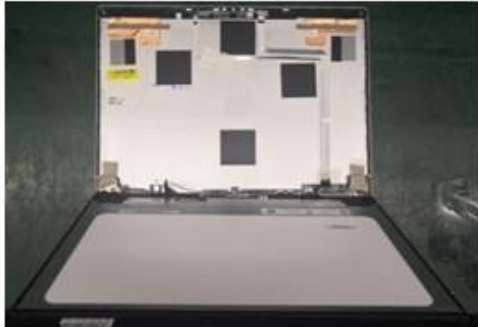

figure 1
1. Separate A cover with the panel module (figure 1)